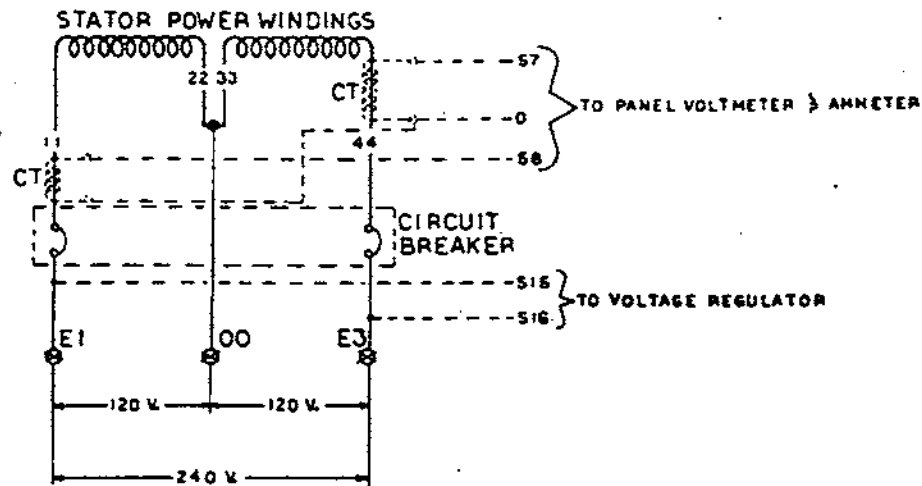

Figure 2.3-A. A Single Phase AC Connection System
2.3.2- SINGLE PHASE, 3-WIRE AC CONNECTION SYSTEM (Figure 2.3-A)